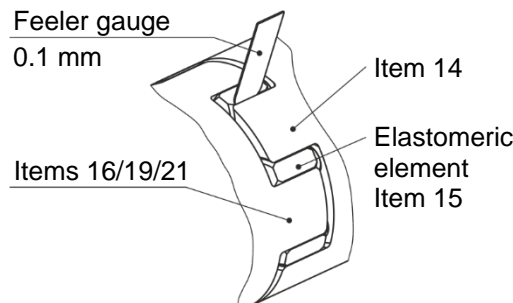

Fig. 18
No abraded particles are allowed on the elastomeric element (15). The gap between two claws must be filled with the elastomer, with no room for backlash. You should not be able to insert a feeler gauge with a thickness of 0.1 mm (Fig. 18).